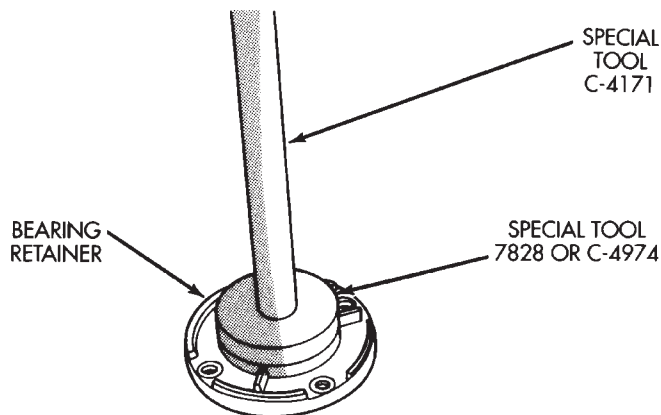

Fig. 73 Installing Input Bearing Retainer Seal
(31) Install new seal in input bearing retainer with Handle C- 4171 and Installer 7828, C-4974, or similar size installer tool (Fig. 73).
(32) Install input bearing retainer as follows: